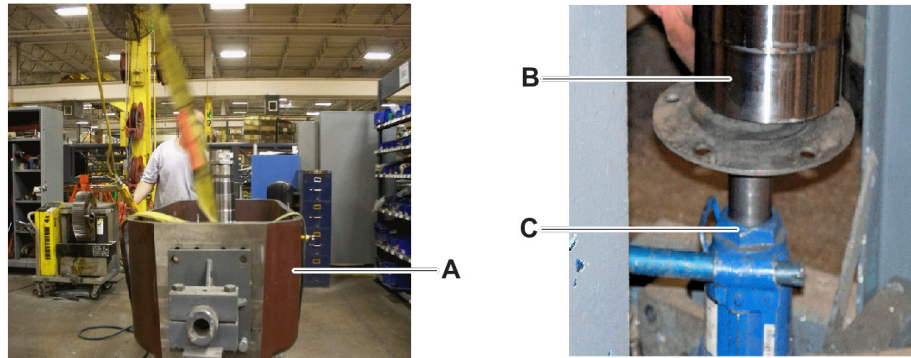

Figure 7
13. Use a strap and the hoist to rotate the housing (Figure 7, item A) carefully to the upright position.